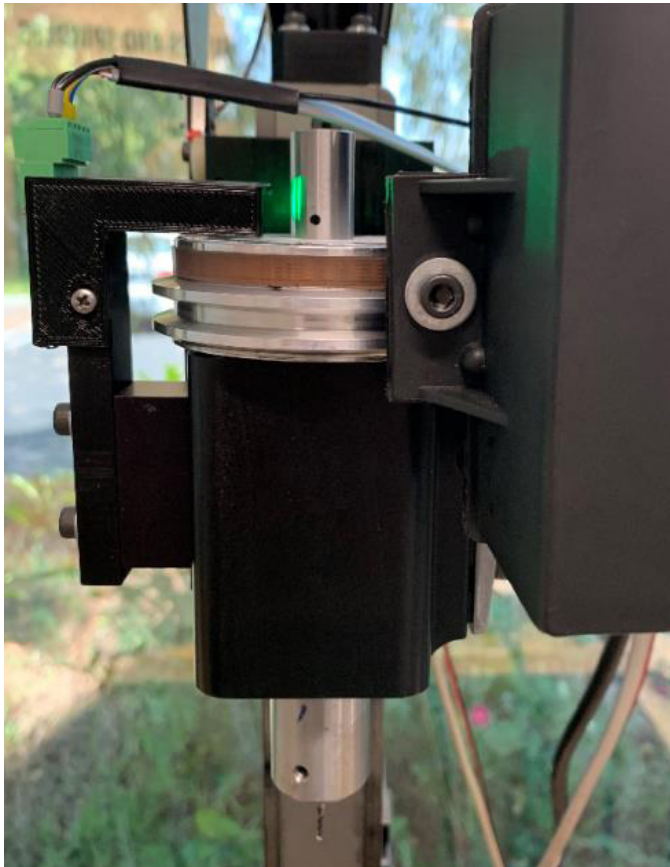

FIGURE 1—The V-belt is positioned in the high-speed, upper pulley groove.
2. With the V-belt in the high speed groove on the pulley (see Figure 1), the maximum RPM is 2800.